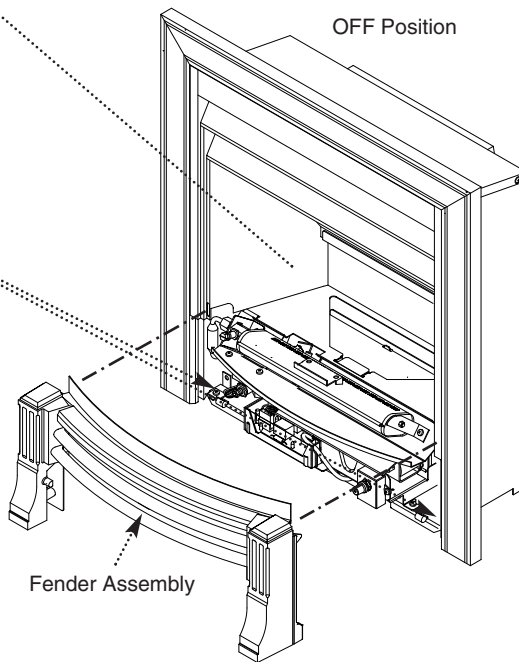

Fig. 45
7. Lift the fender assembly to disengage it from the hooks and remove it (Fig. 45).